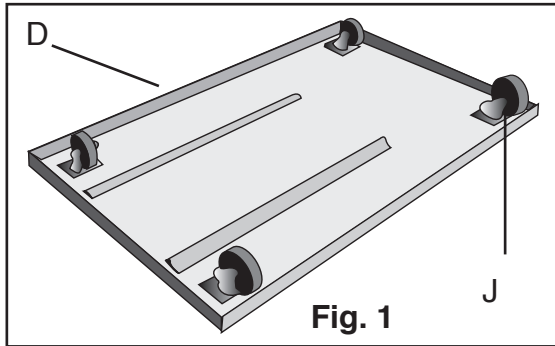

Fig. 1
Fig.1: Flip the base plate right side up. Now attach the motor base to the base plate (D). Hardware needed – Use 4 of the short hex bolts (M8) and 4 of the large washers.